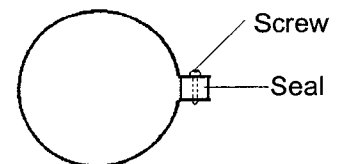

Fig. 13
- 5.5.27** Referring to Fig. 13 assemble a small maintenance clip on the outlet of the boiler flue bend. Push the inner flue tube into clip and tighten clip screws.